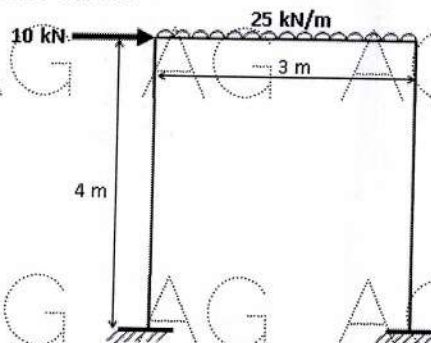

Figure 2
3. Using Kani's method, analyze the frame shown in figure 2 and draw the bending moment diagram. Elastic curve. [15]